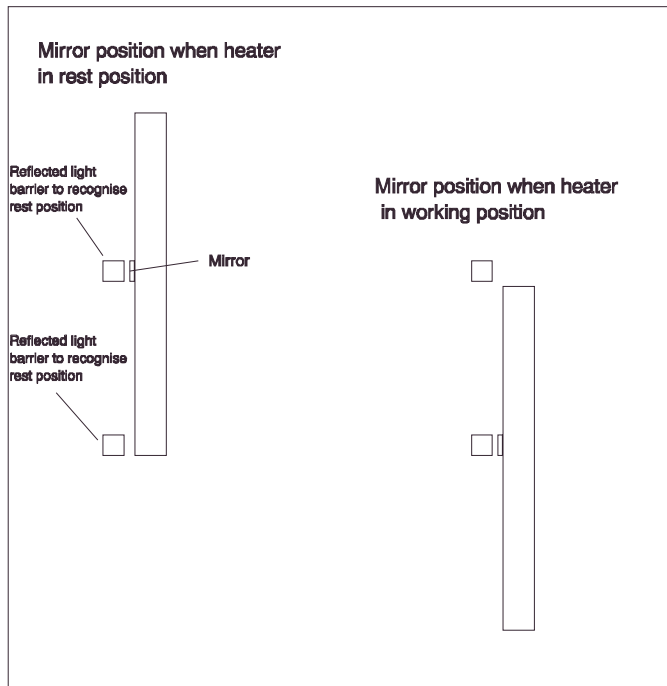
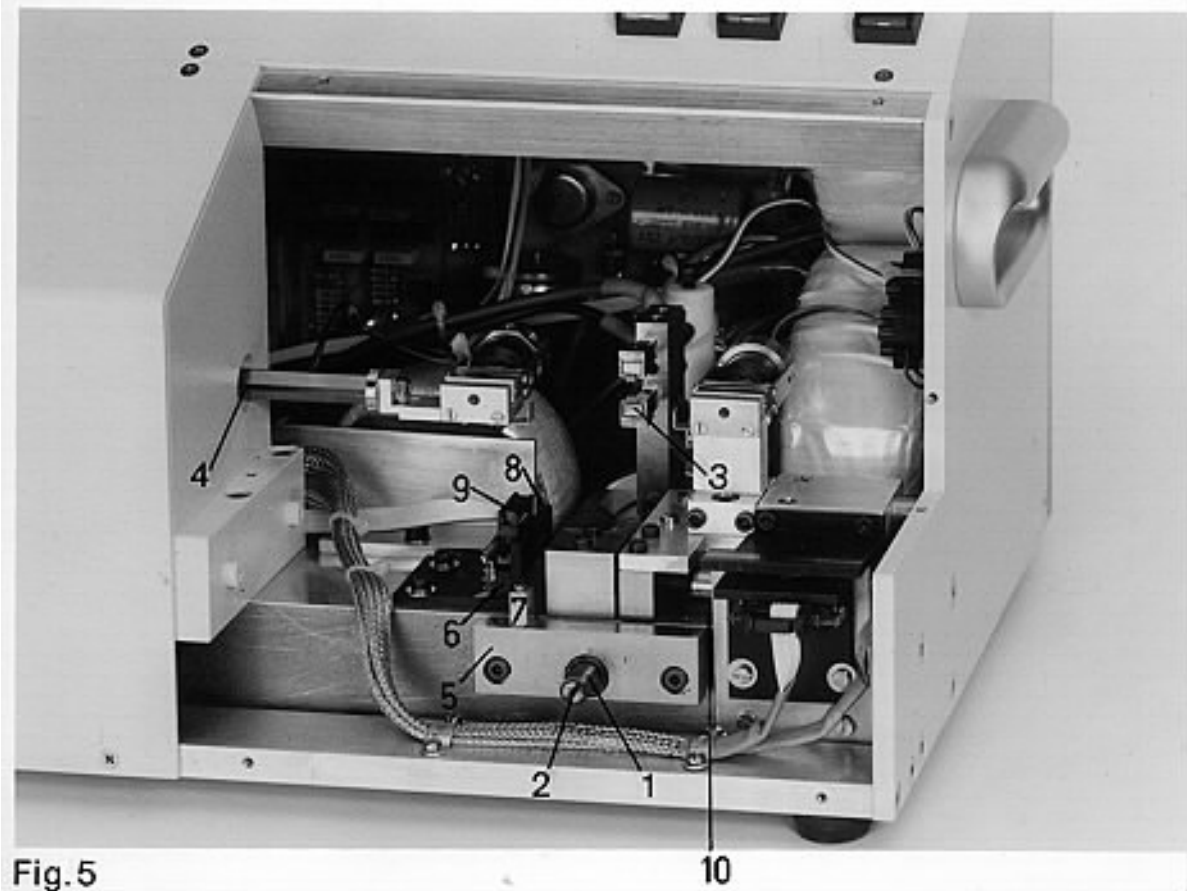

Fig. 1
Fig.5
Fine adjustment of the position of the heating filament: **after closing** the cover as described above, switch on the puller (**MAINS**). The heating unit will immediately return to its rest position. Insert a glass blank into the glass holders and press **START**. Immediately before the puller has moved the heating unit to its advanced position, switch the puller off (**MAINS**). Now remove the metal cover again. Give the spindle (Fig. 5, 1) a few turns using a screw driver inserted in the slit (2) until the loop of the heating filament has reached the glass. Carefully adjust the position of the filament as above. The glass tube should be centred precisely in the loop of the heating filament.
If the filament has been correctly inserted into its slots, the distance between the rear wall of the glass tubing and the filament will be correctly adjusted. Now screw the metal cover pane back in place and switch on the puller (**MAINS**). The heating unit will return to its resting position. On pressing **BREAK** (Fig. 1, 6) the glass holders will open and the glass blank can be removed.
2. Remove the cover panel (Fig. 1, 18, three screws).
13. Replace the cover (Fig. 1, 18).
When the puller is turned on (**MAINS**, see **Remedy A**) or when the pull sequence is started (**START**, see **Remedy B**), a rattling motor noise may be heard. This indicates that the bronze block (Fig. 5, 5) of the heater advance has become completely detached from the spindle (Fig. 5, 1). The spindle has an external thread and the bronze block an internal thread and under normal conditions the spindle is screwed into the bronze block. The length of the spindle and its thread are so designed that in the case of an error the heater advance cannot jam mechanically, in either its advanced or retracted position. Complete detachment of the bronze block from the spindle thread is normally prevented by two reflected light sensors (6) and a small mirror which is glued to the guide track (7) which moves with the heater (The mounted mirror cannot be seen, it is situated between the black aluminium part (8) of the sensor and the track (7)). The travel of the heater advance is the distance between these two sensors (see sketch Fig. 1 on the end of this chapter). The error case occurs when the mirror is beyond either of the reflected light barriers (see sketch Fig. 2 on the end of this chapter).
The bronze block must be screwed back onto the spindle (Fig. 5, 1):
Step 1. Switch off the puller (**MAINS**) and pull out the mains plug. Open the lower right cover panel (Fig. 1, 14) .
If the heater is in its rear position, turn the spindle (Fig. 5,1) clockwise using a screwdriver in the slit (2). At the same time, and using a second screwdriver, push the bronze block forwards (i.e. towards you) so that its thread engages in the first turn of the spindle's thread. (If the heater is in its forward or working position, see Remedy B)
Continue to turn the spindle clockwise until the heater is at approximately the middle of its travel. For safety reasons the cover panel (Fig. 1, 15) must be replaced before switching the puller on. Use the screws which were removed
Possibility 2. There is an error in the sensors (Fig. 5, 6)
To exclude the second possibility, detach the plug (Fig. 5, 9) leading to the sensors whilst the rattling noise continues (the cover panel must be removed again to do this).
**Take care! Fingers can be seriously injured if jammed between the aluminium block (Fig. 5, 10) and the bronze block (5) as the heater reverses. Keep hands and fingers away from here!**
If a rattling noise is heard when the heater is in its working (outer) position, the bronze block (Fig. 5, 5) has advanced off the front end of the spindle thread.(1) i.e. the sensor has not recognised the working position of the heater. To find and remedy the error, the threads of the bronze block and the spindle must first be reengaged.
For safety, switch the puller off (**MAINS**) and remove the mains plug. Open the lower right cover panel (Fig. 1, 14) .
Turn the spindle (Fig. 5, 1) counterclockwise using a screwdriver in the slit (2) and, at the same time push the bronze block (5) towards the rear until the threads of the spindle and bronze block engage. Continue to turn the spindle (1) until the heater is at approximately the middle of its travel.
For safety reasons the cover panel (Fig. 1, 15) must be replaced before switching the puller on. Use the screws which were removed at step 1 above. **Failure to close the cover properly may result in the advancing heater colliding with the cover panel and causing serious damage to the instrument.**
Possibility 2. There is an error in the sensors (Fig. 5, 6).